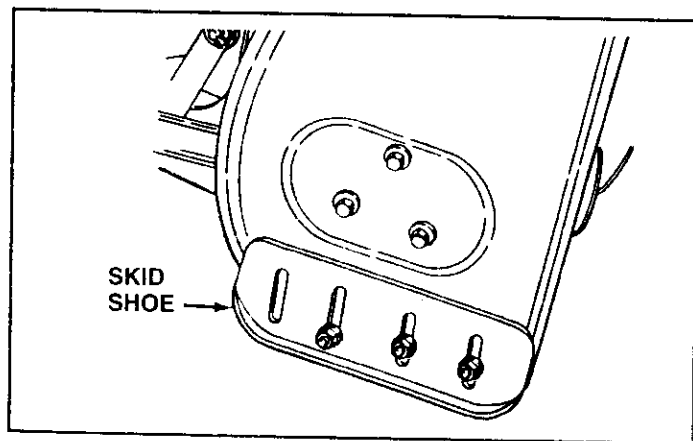

FIGURE 36
CHECK SCRAPER AND SHOES FOR WEAR (Refer to figures 36 and 37 on page 20.)
- Raise the snow thrower off the ground and place a block under each end of the scraper plate. Loosen the six hex nuts securing the skid shoes to the housing. Adjust the skid shoes up or down and retighten the nuts securely. Adjust both skid shoes to the same height to keep the housing and the scraper plate level. See figure 36.